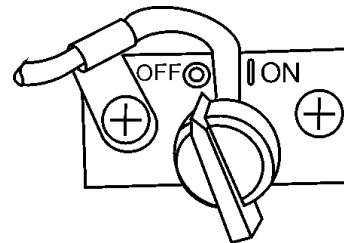

Figure 14. ON/OFF Switch (Off Position)
2. After the engine **cools**, turn the engine **ON/OFF** switch to the **"OFF"** position (Figure 14).